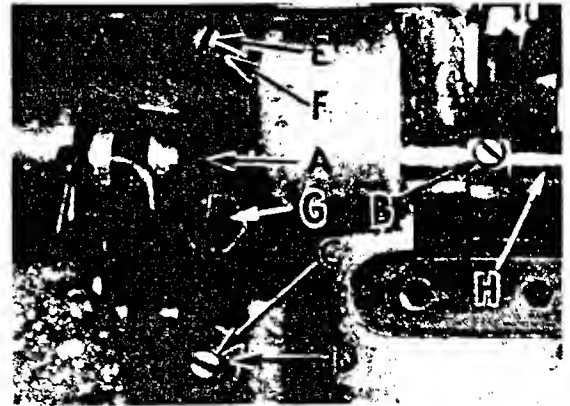

Fig. 16
Assemble the presser foot to presser arm. With needles in high position, swing presser arm (U, Fig. 1) into sewing position and set the presser foot to align needle holes (front and back) and flat on throat plate. The front edge of needle hole in presser foot must be aligned with front edge of needle hole in throat plate. It is also important that the bottom of the presser foot be flat on the throat plate. If necessary, presser foot can be realigned with throat plate slots by shifting the foot lifter lever shaft (H, Fig. 16). To move the shaft, loosen collar screws (B, Fig. 16) and clamp screw (G) and then shift the foot lifter lever shaft to the left or right as required. Retighten collar screws and clamp screw.
The foot lifter lever arm (A, Fig. 16) and the collar (B) secure the shaft. Be sure the presser arm does not bind and rise when presser foot release bushing is unlocked. To center presser foot and stitch tongue with respect to throat plate needle hole, loosen presser foot hinge screw.